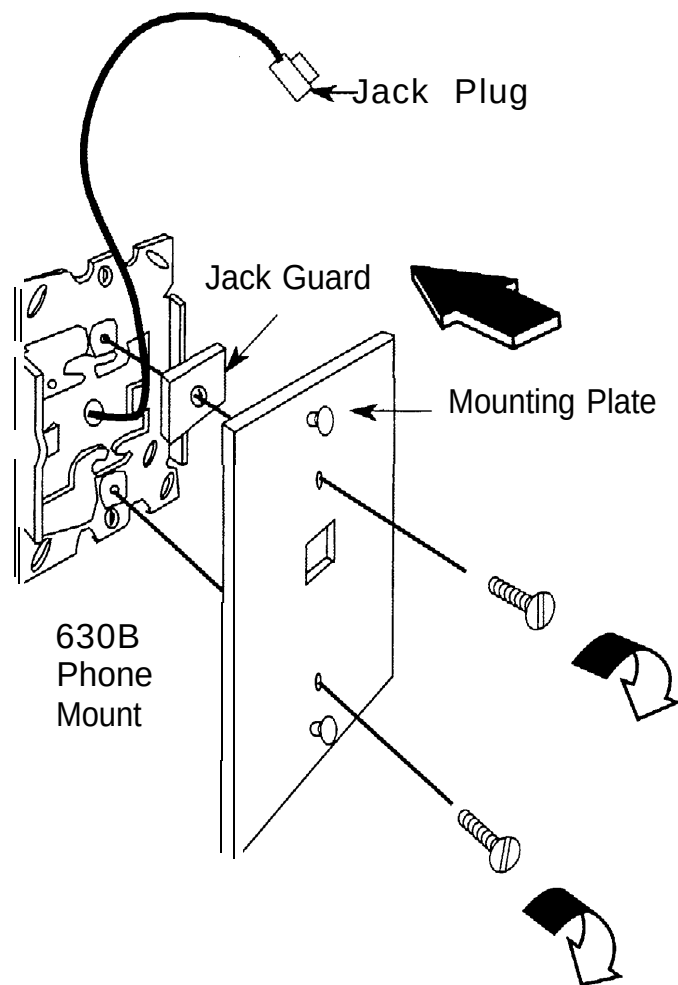

Figure 3-37. Mounting the Backplate
- e Insert the two short screws provided with the Phonemount into the mounting plate. Be sure to thread the upper screw through the jack guard. See Figure 3-37.